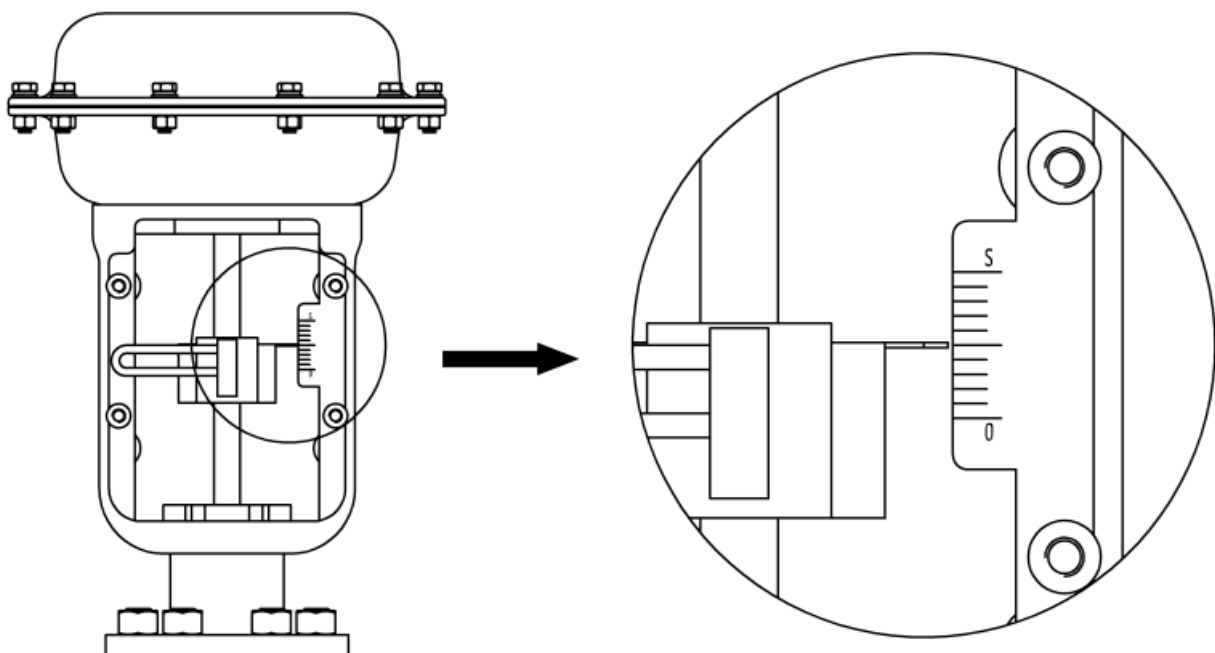

Figure 14. Valve mid-stroke point
- Input air to the valve cylinder, adjust the valve position to the mid-stroke point according to the stroke ruler on the valve, as shown in Figure 14.